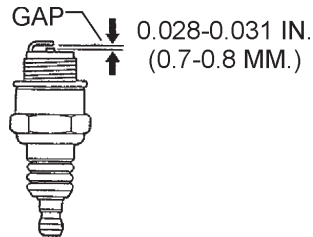

Figure 21. Spark Plug Gap
1. Remove and clean the spark plug (Figure 21).